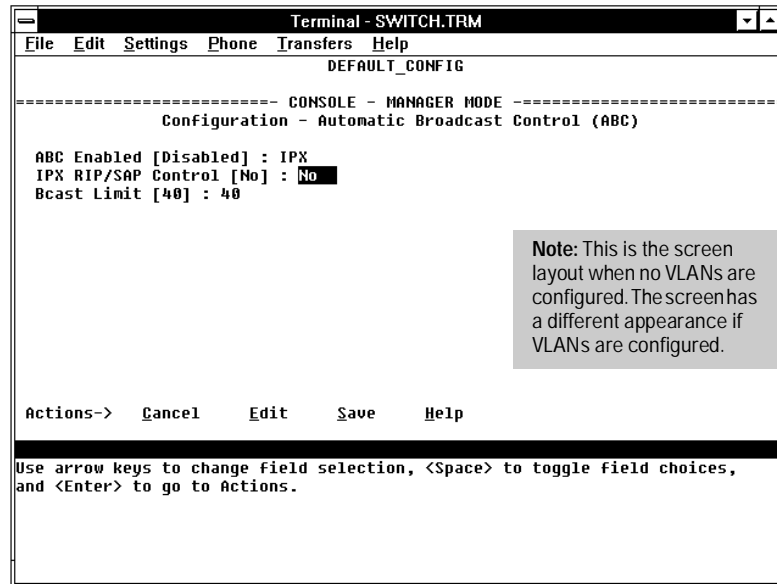

Figure 7-22. ABC Enabled With Default IPX Option (No VLANs Configured)
- If you enabled ABC for IPX (figure 7-22, below):